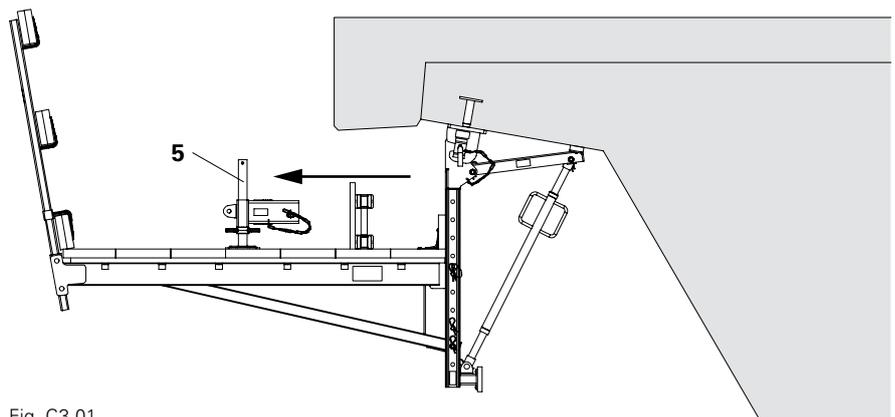

Fig. C3.01
1. Remove Formwork Post VGK 70 (7) and Kicker AV 82 (2a).
3. Remove the Formwork Support VGK (6).
4. Remove the Formwork Fixing VGK 2 (5) and internal Stopend Formwork. (Fig. C3.01)